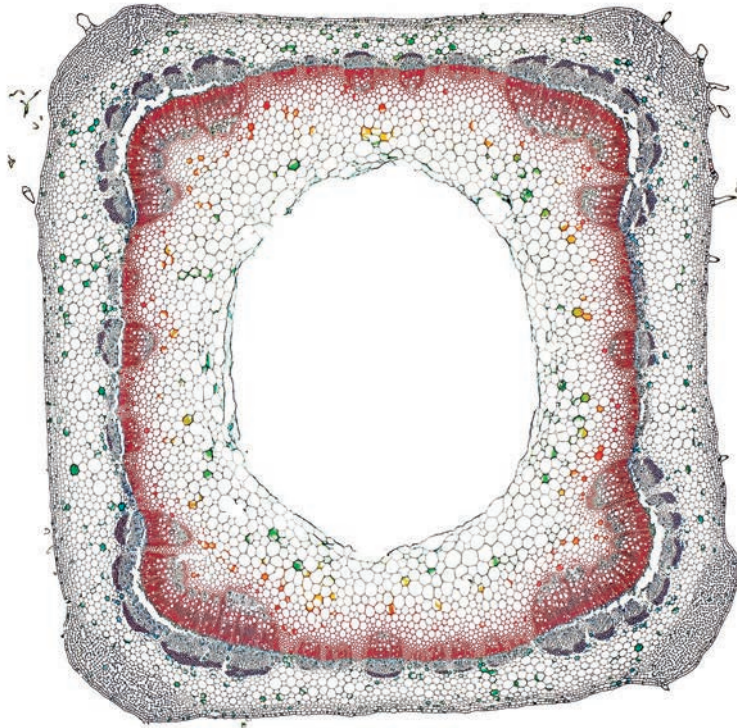
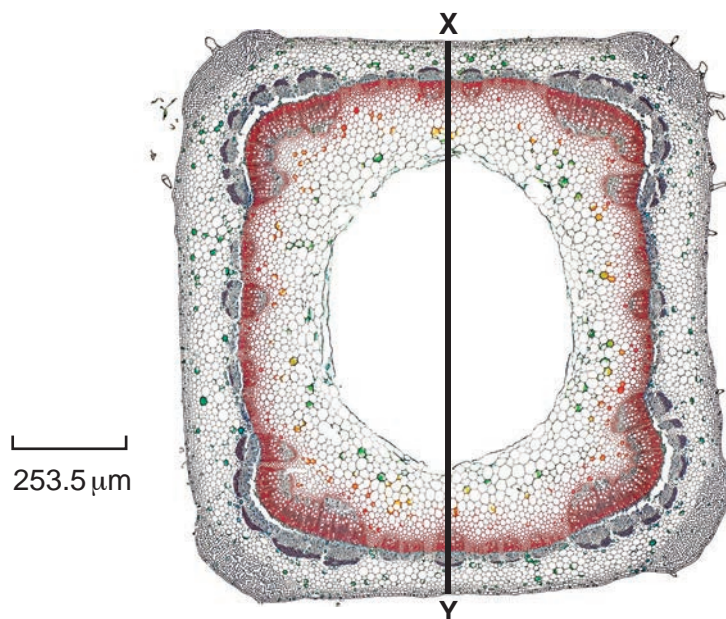

Fig. 2.2
Fig. 2.3
(b) Fig. 2.2 is a photomicrograph of a stained transverse section of a different stem.
Identify **three** observable **differences** between the stem in Fig. 2.2 and the stem on **M1**.
- (c) Fig. 2.3 is the same photomicrograph as that shown in Fig. 2.2. The line X–Y is drawn across the width of the stem.